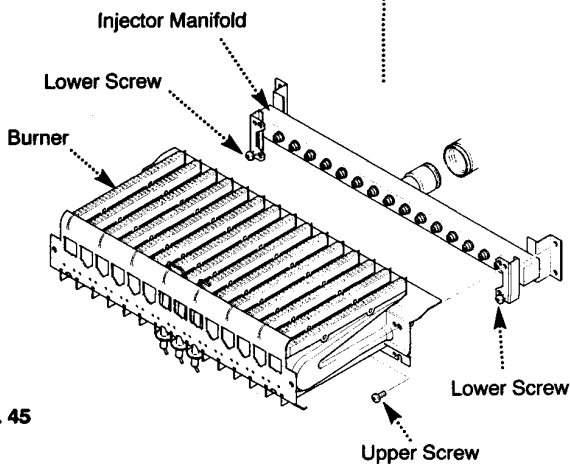

Fig. 45
9. Loosen the two lower screws securing the burner to the injector manifold (Fig. 45).
10. Remove the remaining two upper screws securing the burner to the injector manifold (Fig. 45).